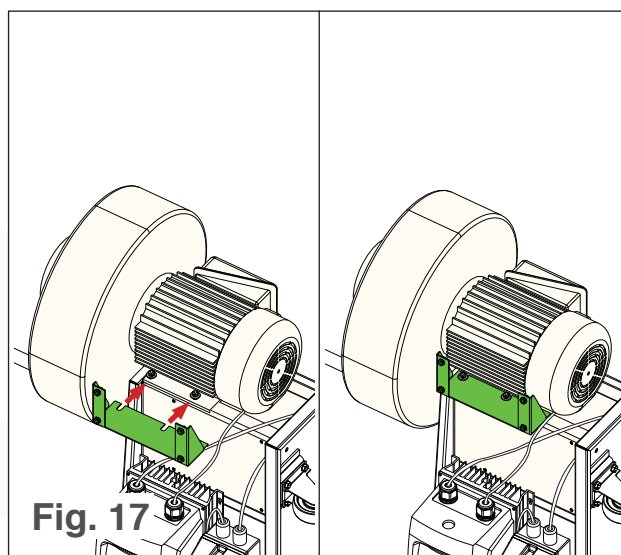

Fig. 17
4. Slide the switch mount in between the left side of the motor and washers (see Fig. 17).